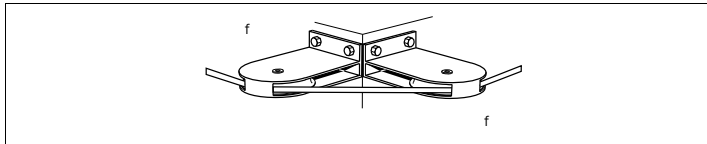

Fig. 4: Guidance around corners
- If the rope goes around corners, mount 1 pulley wheel **f** on either side of the corner (Fig. 4).